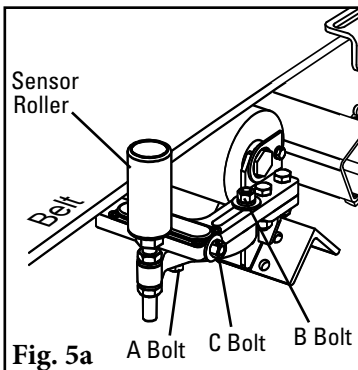

Fig. 5a
- 5. Adjust sensor rollers** so they are 19mm from the belt on each side. Adjust by loosening the "A" and "B" bolts, then turning the "C" bolts (Fig. 5a & b).